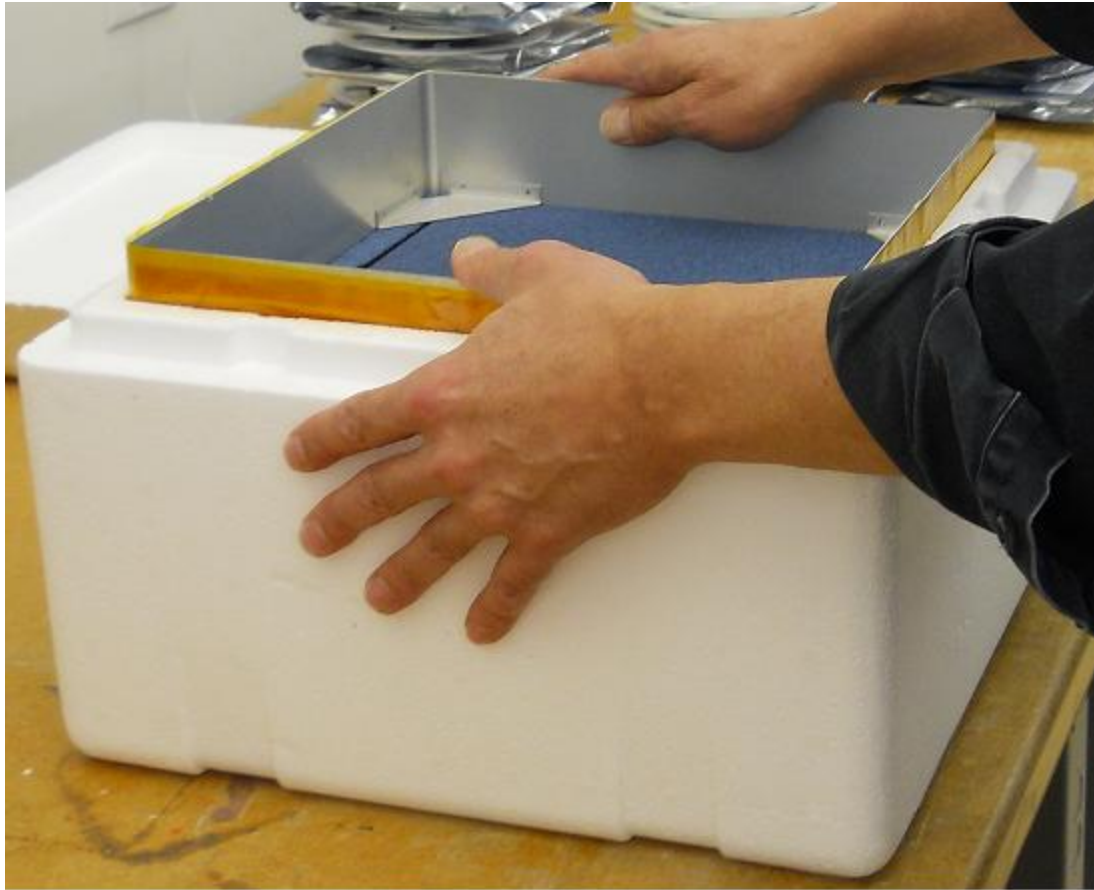

Figure 5. Replacing the metal frame, target foam, and protective liner
6. When finished examining or drying the foam, replace the protective liner around the metal frame and insert it back into the Styrofoam (Figure 5).